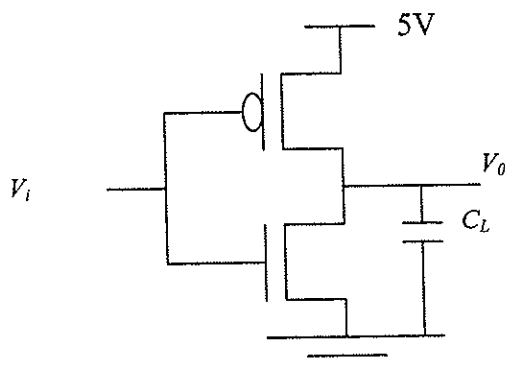
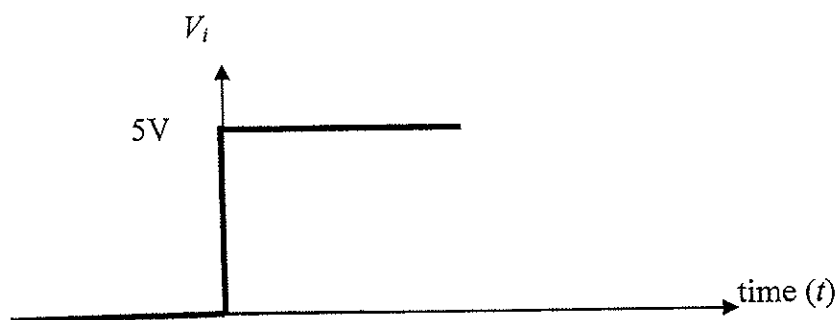

Fig. Q1.1
Fig. Q1.2
- Q.1 Consider the inverter circuit shown in Fig. Q1.1 where the voltage waveform shown in Fig. Q1.2 is applied to input V_i .
The waveform shown in Fig. Q1.2 has a 5V step at $t=0$. V_i is 0V for $t < 0$ and stays constant at 5V for $t > 0$. Assume that the subthreshold currents for all the devices in Fig. Q1.1 are zero. For the devices shown in Fig. Q1.1, V_{GS} and V_{DS} are the gate to source and drain to source voltages, respectively. Furthermore, the drain current I_d in the linear and saturation regions for both the devices is given respectively by